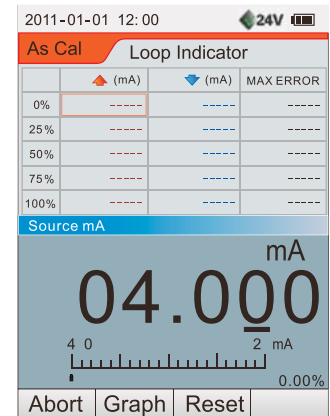

Figure 9.30 Data display
7. In the calibration process, you can press **F2** key to switch the curve and the data interface (Figure 9.30) , and the data interface record the calibration
9. In the calibration process, you can press **F2** key to switch the curve and the data interface (Figure 9.30), and the data interface record the calibration information in time: the output value of the calibration and the maximum error.